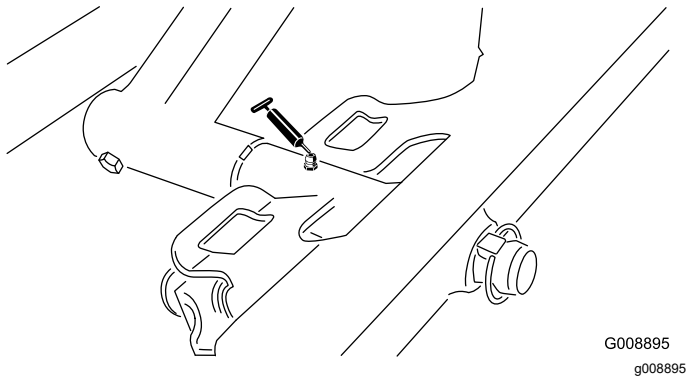

Figure 34
- Front cutting-unit pivot (Figure 34)